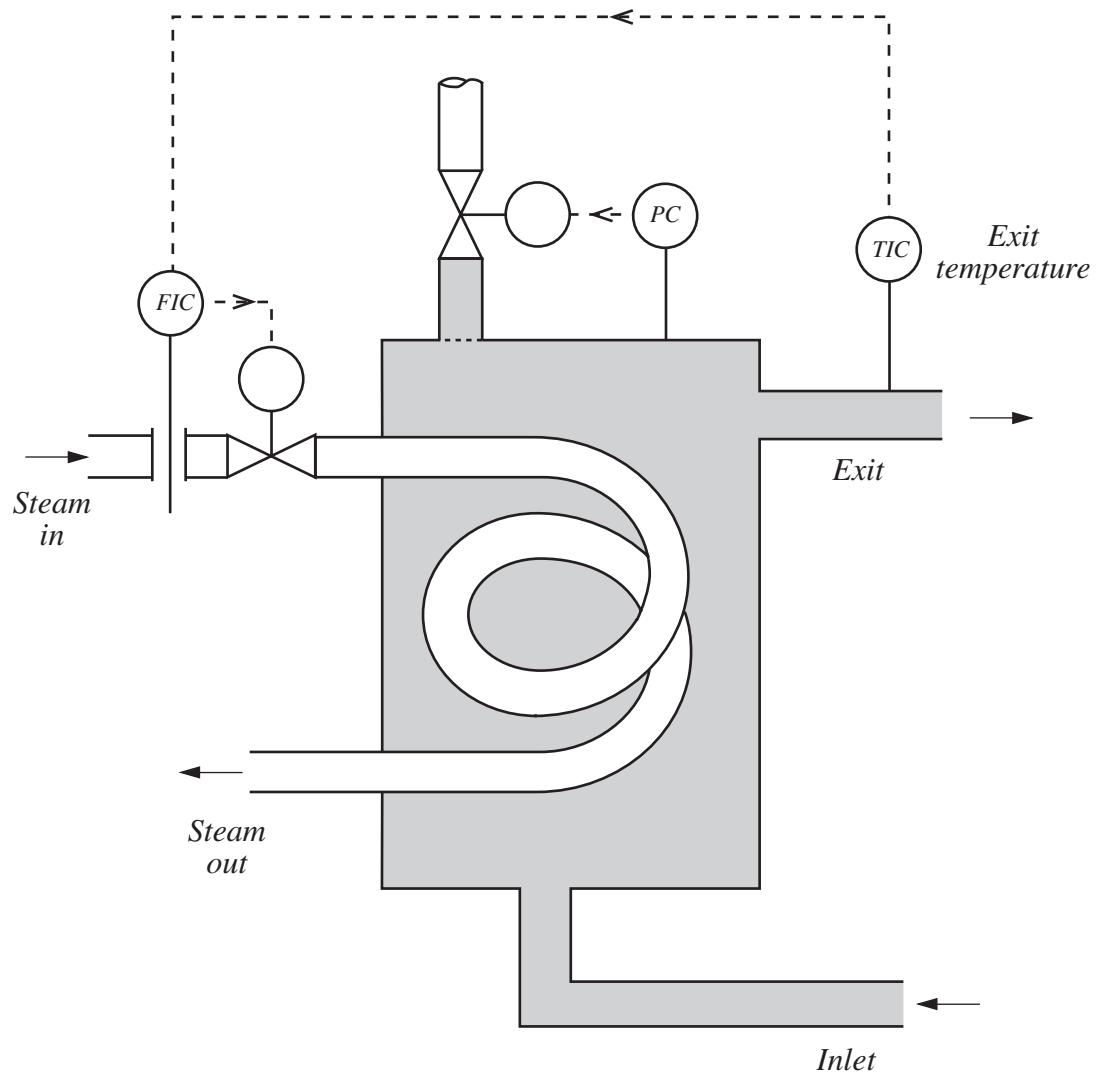

FIG. 10
2. The cascade modification is shown in FIGURE 10.